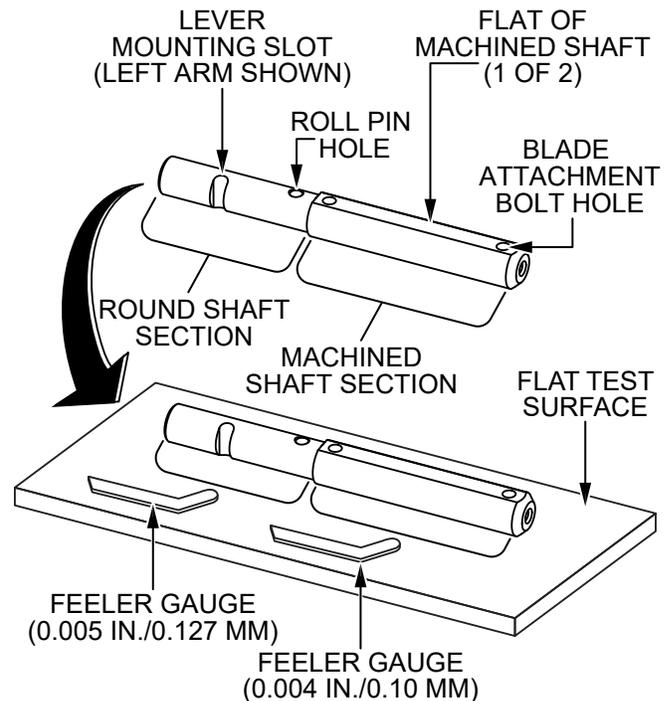

Figure 55. Checking Trowel Arm Straightness
1. Place the trowel arm onto a thick steel plate, granite slab, or any other surface which is flat and true (Figure 55).
2. Check each flat (2 total) of the machined shaft section of the trowel arm (Figure 55). A feeler gauge of 0.004 in. (0.10 mm) should not pass between the flat of the trowel arm and the test surface along its length on the test surface.
3. Check the clearance between the round shaft and the test surface as one of the flat sections of the arm rests on the test surface (Figure 55). Rotate the arm to each of the flat sections and check the clearance of the round shaft. Use a feeler gauge of 0.005 in. (0.127 mm). Each section should have the same clearance between the round of the trowel arm shaft and the test surface.